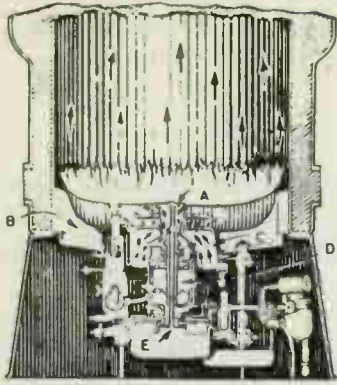

Fig. 8 Rotary cyntrifugal atomizing oil burners
- (1) Vertical axis of rotation. See Fig. 8.